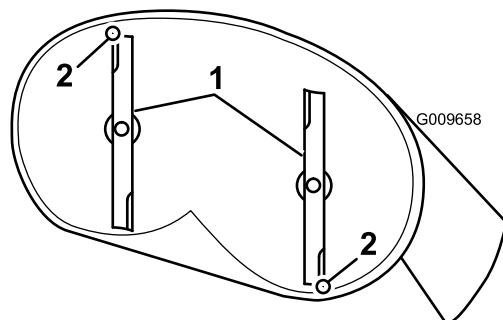

Figure 52
- Carefully rotate the blades so they are facing front to rear (Figure 52).
- Measure from the tip of the front blade to the flat surface, and the tip of the rear blade to the flat surface (Figure 52).
- After adjustment, check the front-to-rear slope again, continue adjusting the nut until the front blade tip is 1.6 to 7.9 mm (1/16 to 5/16 inch) lower than the rear blade tip (Figure 52).